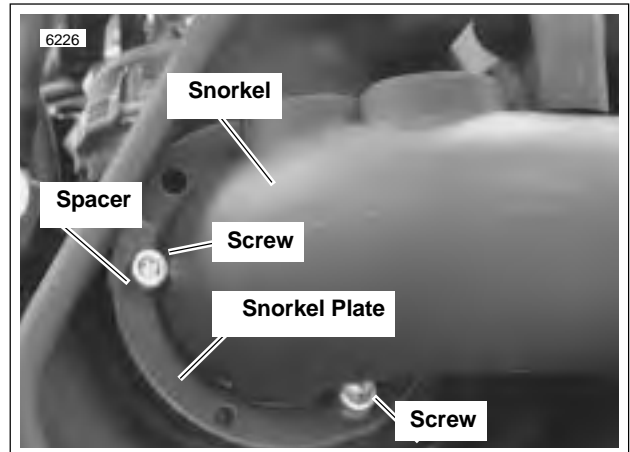

Figure 4-106. Air Cleaner Front Mount
- See Figure 4-106. Remove two screws (1) and snorkel plate (2). Remove snorkel (3).
6. See Figure 4-106. Install snorkel.
- a. Apply LOCTITE THREADLOCKER 243 (blue) to screws (1).
- b. Align snorkel (3) on spacer (4) and spacer screw.
- c. Attach snorkel to backplate assembly using snorkel plate (2) and two screws (1). Tighten to 6-8 ft-lbs (8-11 Nm).